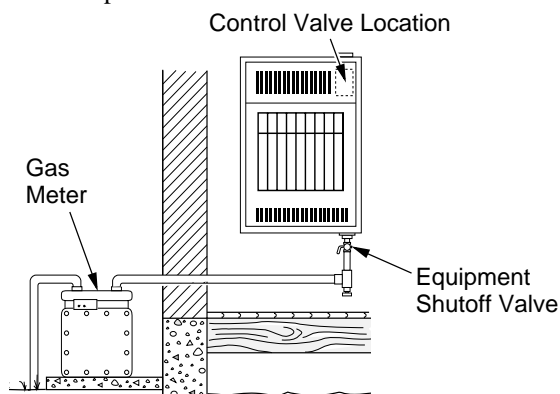

Figure 15 - Checking Gas Joints for Natural Gas
4. Check all joints from equipment shutoff valve to control valve (see Figures 15 and 16). Apply a noncorrosive leak detection fluid to all joints. Bubbles forming show a leak.